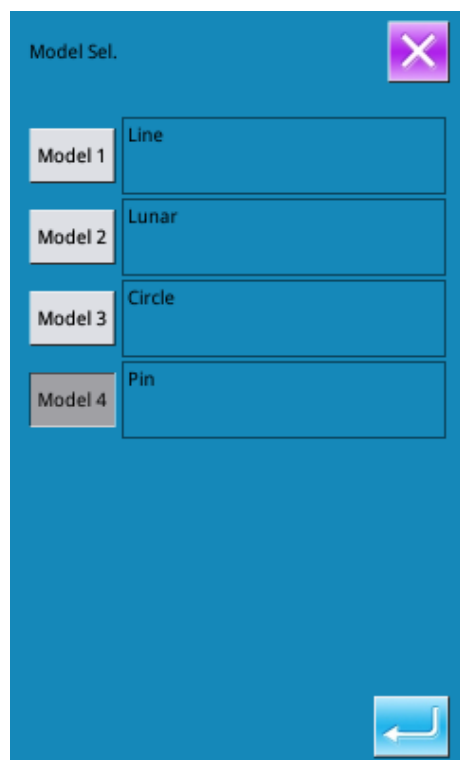

Figure 1
- Press the “Knotting Shape” and then select “Model 4 (Button Sewing)” in the Model Selection interface, where user can edit the round knotting, as shown in figure 1.